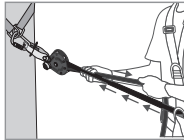
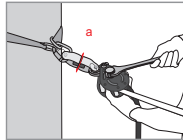

Fig 3
Fig 4
Once the lifeline is installed, a pre-adjustment of the tension must be made by pulling manually on the rope (knot end side — Fig. 3). Automatically, the cam (8) and the cam lever (4) must come into contact with the rope. Close the cam lever (4), then, using an appropriate wrench, apply tension on the tension adjustment bolt (1) until the tension indicator washer (a) placed on the tension indicator (2) turns freely (Fig. 4). Once this washer moves freely, STOP TIGHTENING! This corresponds to a pre-tensioning on the line of approximately 1 kN. During use, regularly check this tension (rotation of the tension indicator washer) and adjust if necessary, as explained above.